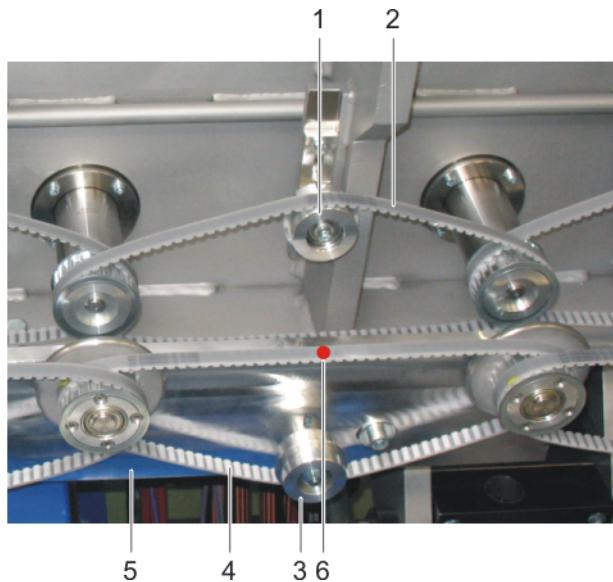

Fig. 8-6 Transmission elements of the transport system
- The tension pulley of the process transport system is mounted at a guide rail (1 in Fig. 8-6, 253)
- The tension pulley of the carrier back transport (3 in Fig. 8-6, 253) is fixed at an elongated hole of the roll holder (5 in Fig. 8-6, 253).
- 3** Move the tension pulley along the elongated hole to release the tension of the transmission belt (2 or 4 in Fig. 8-6, Fig. 253).